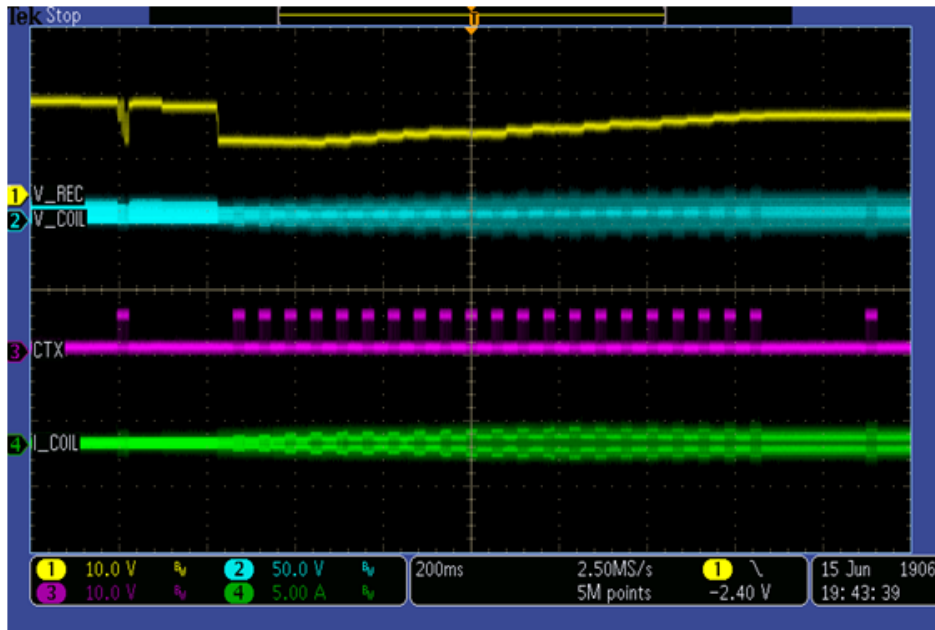

Figure 40. System response for adding loading gradually
3. System response measurement for adding the load gradually from 0 A is shown in Figure 40.